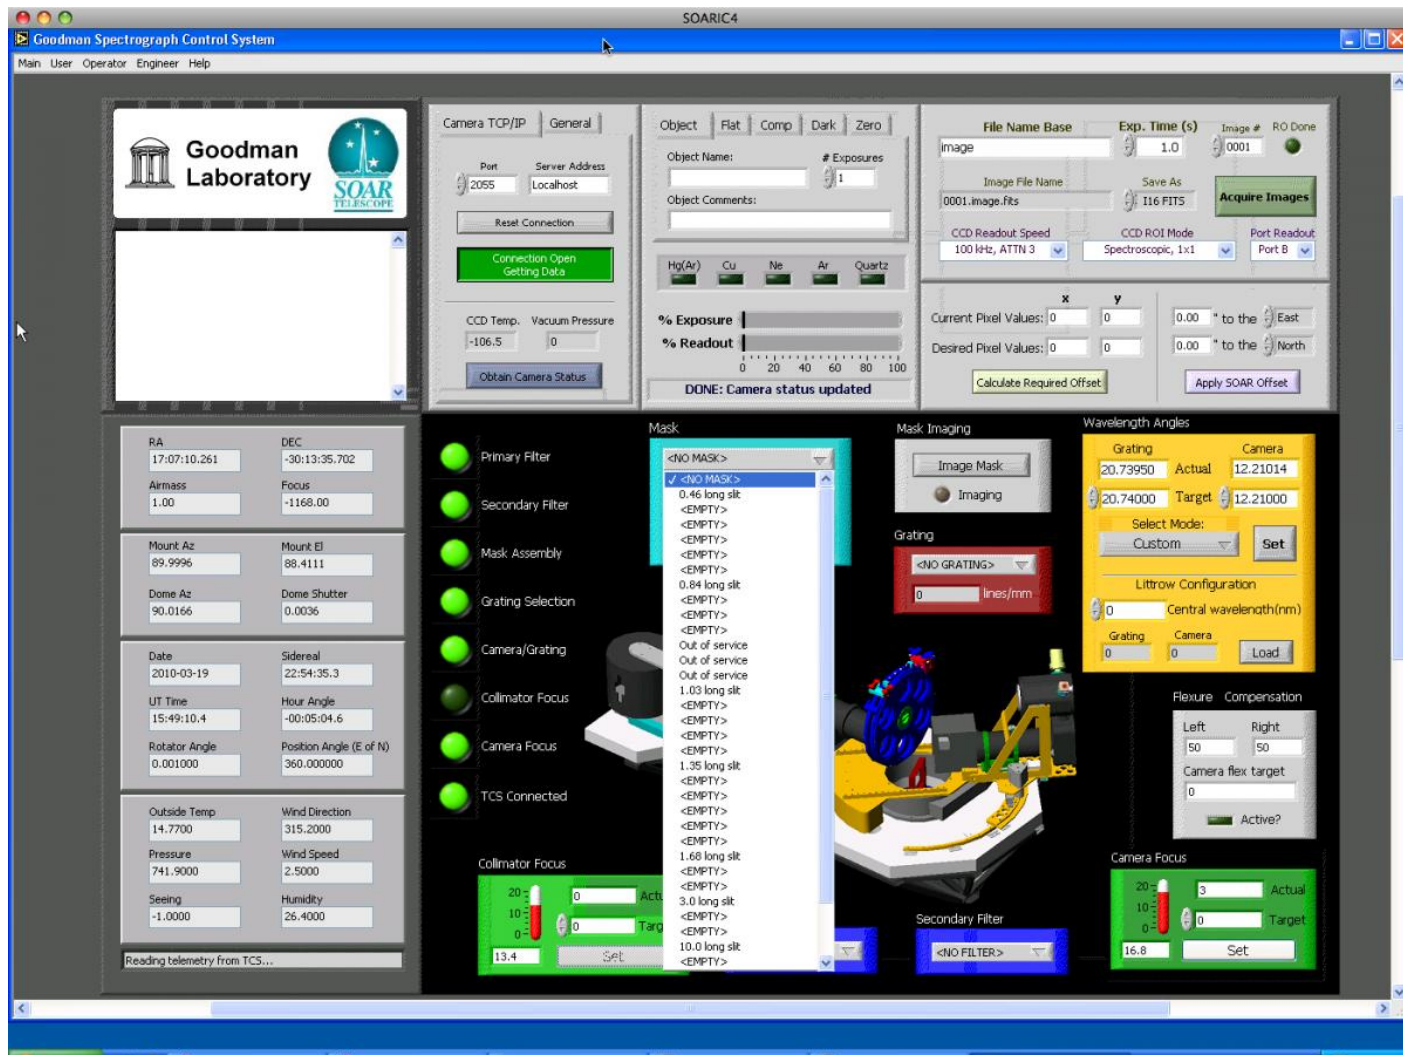

Figure 5: Selecting the slit mask to be used.
- Select the 0.45 arcsec slit mask to obtain the highest spectral resolution that is possible. That is, the average FWHM of a comparison lamp emission line profile should be ~ 3.0 pixels (see Figure 5).